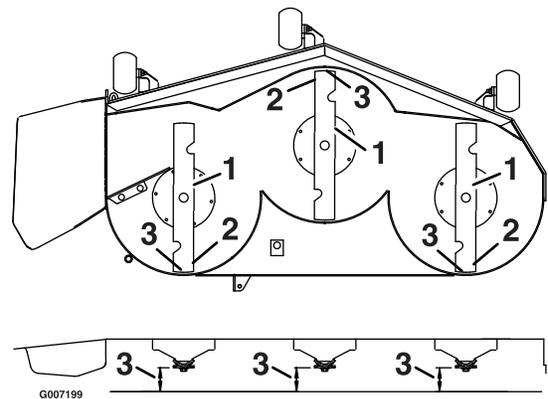

Figure 64
3. Carefully rotate the blades so they are facing front to rear (Figure 64).
4. Measure from the tip of the front blade to the flat surface and the tip of the rear blade to the flat surface (Figure 64).